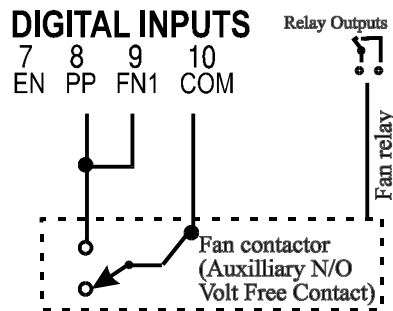

Figure 9.2.3B
9.2.3.3 Figure 9.2.3B (left) shows the 852 wiring arrangement for contact type input where the transformer is fitted with a Pump only.
9.2.3.4 Figure 9.2.3B (right) shows the 852 wiring arrangement for contact type input where the transformer is fitted with a Fan only.